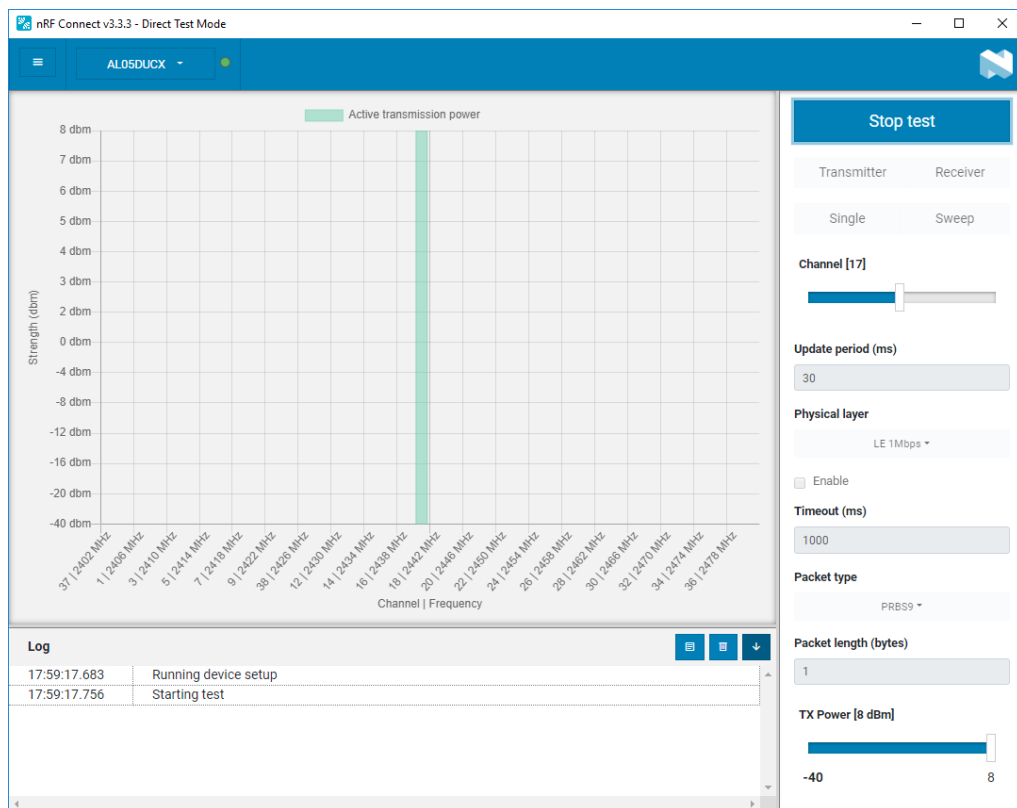

Figure 8: Successful initiation of BLE transmitter test
- Once configured, click **Start test**. Figure 8 shows an active BLE transmitter test.